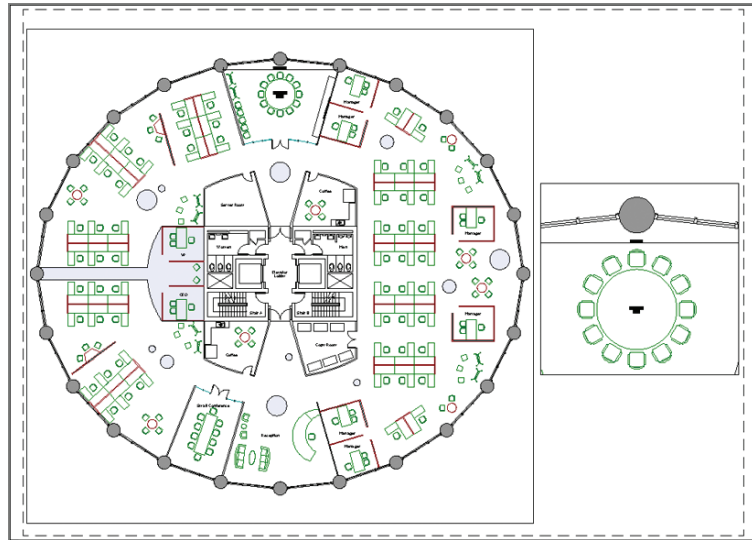

FIGURE 13.18 Creating and configuring a new viewport detailing the Conference Room
11. Double-click within the new viewport to enter its model space. Select $1/2'' = 1'-0''$ (or 1:20 in metric) in the Viewport Scale menu on the status bar; the viewports zoom into the Elevator Lobby again. Pan downward until you center the view on the Conference Room. Double-click outside the viewport to return to paperspace. Figure 13.18 shows the result.